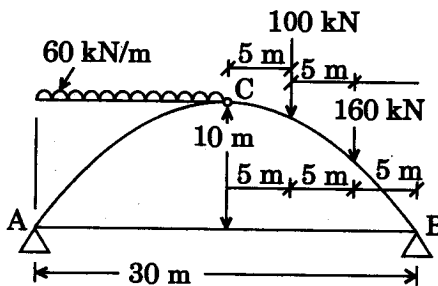

Figure 5
5. A three-hinged arch has a span of 30 m and rise of 10 m. The arch carries a uniformly distributed load of 60 kN/m on the left half of its span. It also carries two concentrated loads of 160 kN and 100 kN at 5 m and 10 m from the right end. Determine the horizontal thrust at each support. (Figure 5)